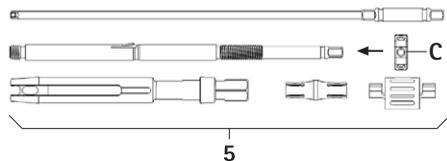

Fig. 10
- ▶ Screw lock nut C onto the inner sleeve, see Fig. 10.